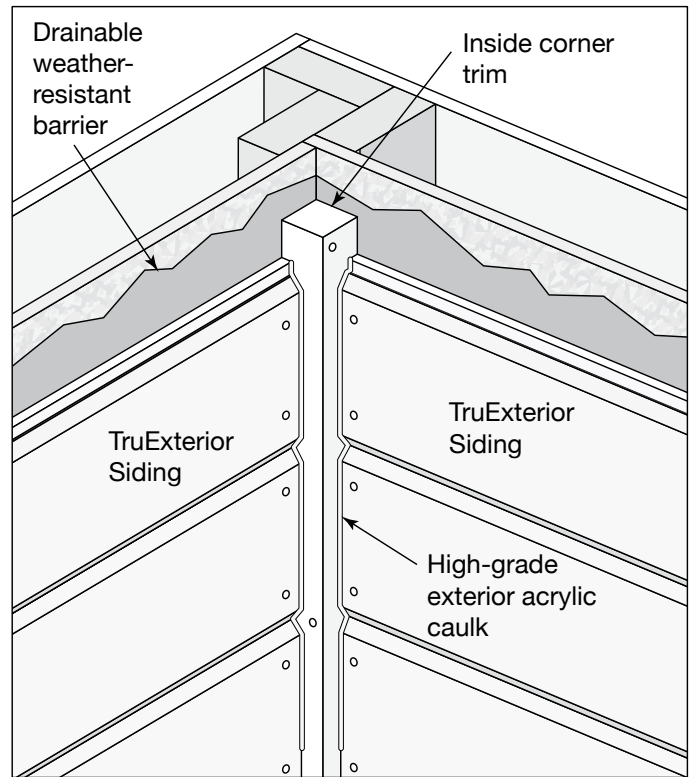

Fig. 9a: Inside corner detail, no gap and with caulk
- When creating inside corners, install 2"x2" trim into the corner with an approved fastener (**Fig. 9a**).
- Use 1 nail every 16" along the length on alternating sides of the trim, ensuring penetration into the framing (**Fig. 9a**).
- Butt each course of siding up to the corner trim and secure in place (**Fig. 9a**).
- Seal the joint between the corner trim and the siding with high-grade, exterior acrylic caulk (**Fig. 9a**).
While TruExterior Siding does not require priming or sealing of end cuts, a variety of caulks and sealants may be used in conjunction with the product to help prevent water intrusion to the structure (**Fig. 9a & 9b**).